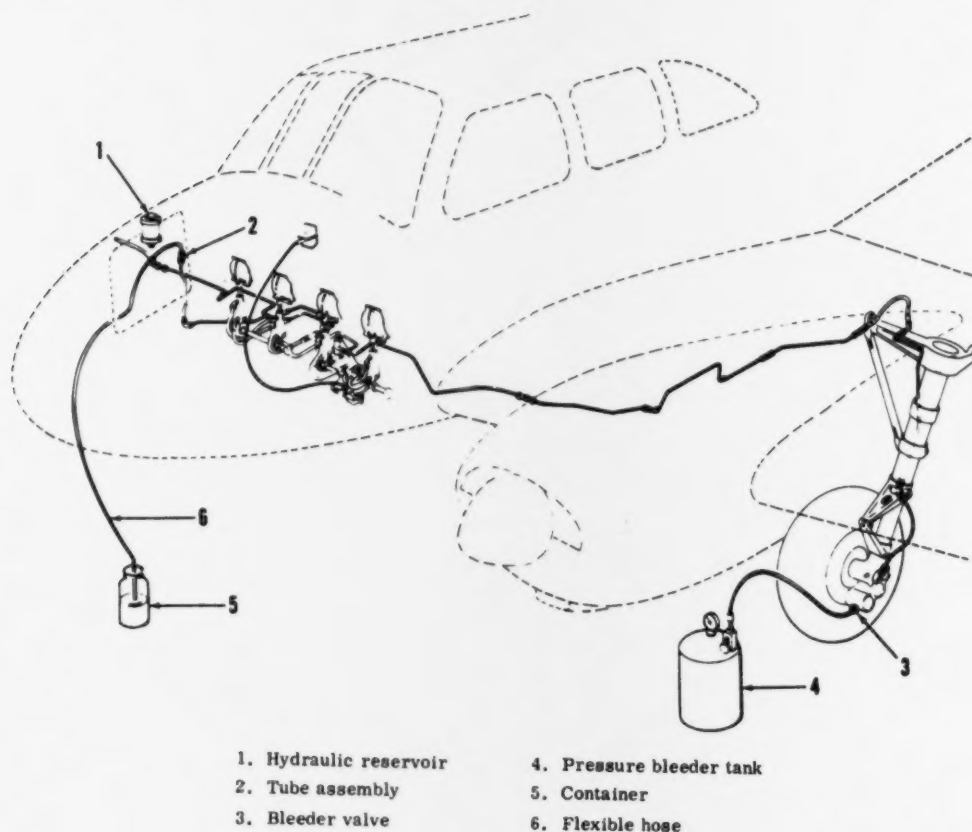

Figure 6-3. Bleeding brake hydraulic system
c. Bleeding. (1) Ensure that handle of parking brake control is pushed fully in.
(2) Disconnect tube assembly (2, figure 6-3) from hydraulic reservoir (1) and allow hydraulic fluid to drain from hydraulic reservoir into a suitable container.
(3) Connect flexible hose (6) to tube assembly (2) and place other end of flexible hose in container (5) containing enough hydraulic fluid (item 3, table 1-8) to cover end of flexible hose.
(6) Open bleeder valve (3, figure 6-3) and bleed brake hydraulic system until hydraulic fluid coming out of flexible hose (6) is free of air bubbles.
brake hydraulic system. Allow to bleed until hydraulic fluid coming out of flexible hose (6, figure 6-3) is free of air bubbles.
(2) Apply pressure to top of pilot's rudder pedals and push handle of parking brake control fully in.
(3) Remove screw and washer from bleeder valve (3, figure 6-3). Open bleeder valve and drain hydraulic fluid from brake hydraulic system until hydraulic reservoir (4, figure 6-2) is empty (approximately 1 pint). Close bleeder valve and install washer and screw.
(4) Disconnect tube assembly (2, figure 6-3) from hydraulic reservoir (4, figure 6-2) and install a cap on tube assembly.
(5) Remove screws, washers, and nuts and remove hydraulic reservoir (4) from bracket.
b. Cleaning. Clean hydraulic reservoir with dry cleaning solvent (item 6, table 1-8) and dry with filtered compressed air.